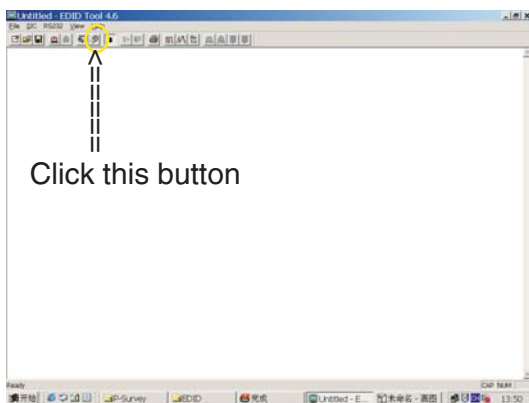
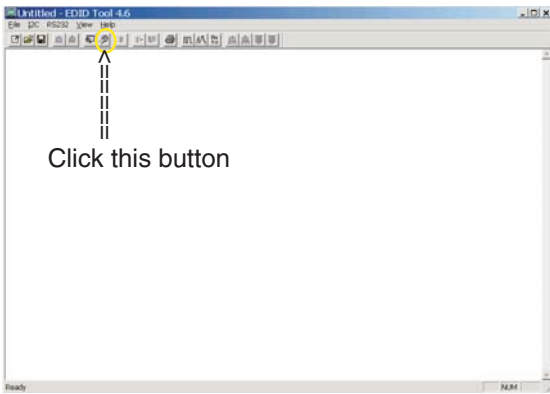

Fig. 11
Fig. 28
1. Click icon as shown in Fig. 11 from the tool bar to bring up the Channels "Configuration Setup" windows as shown in Fig. 11.
1. Click icon as shown in Fig. 11 from the tool bar to bring up the Channels "Configuration Setup" windows as shown in Fig. 28.